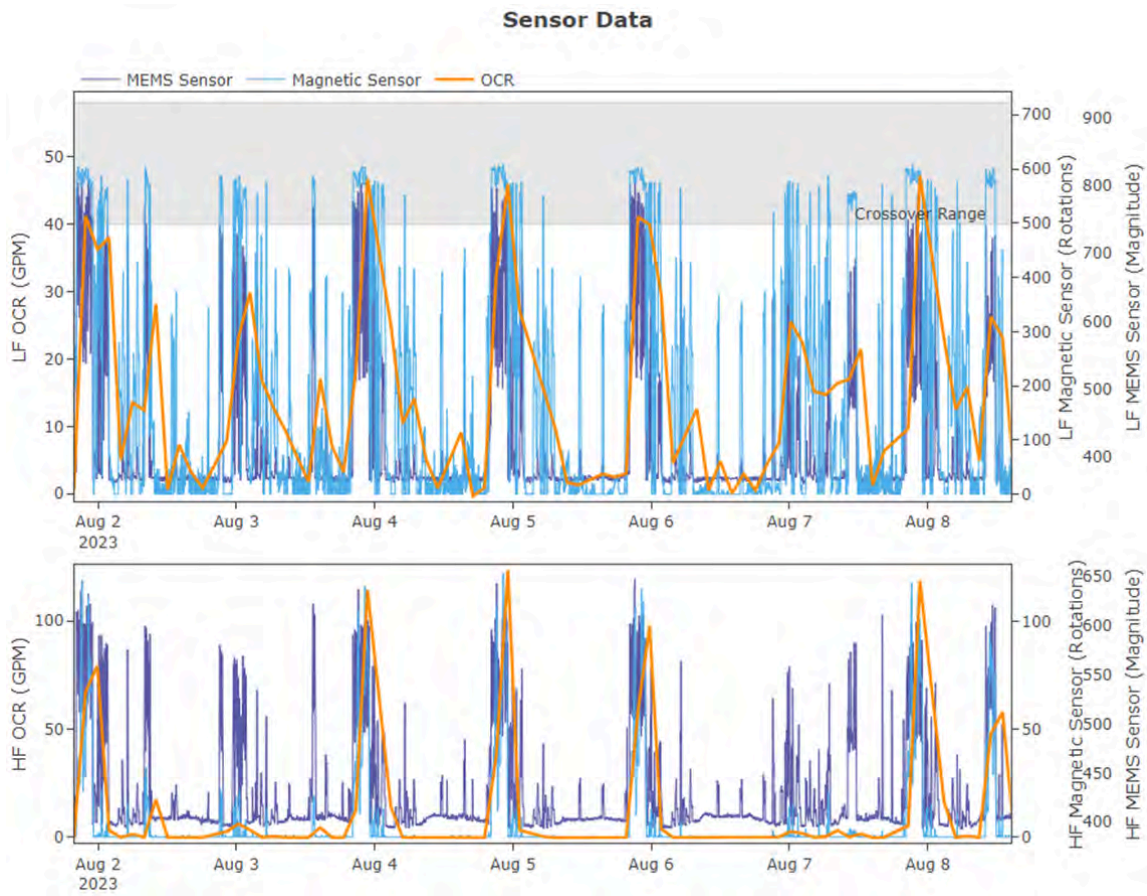

Figure 5 - 'No Problem Found' meter
- This is a compound meter (Figure 5), with the low flow meter represented in the upper graph and high flow meter on the lower graph. The sensor data (flow - orange, magnetic rotations - blue, vibration - purple) is in harmony, and the flow is crossing over from the low flow meter to the high flow meter correctly (crossover range in gray on the low flow meter graph). Analysis reveals that the meter is operating within the manufacturers specifications (Figure 6) and no problem is found.